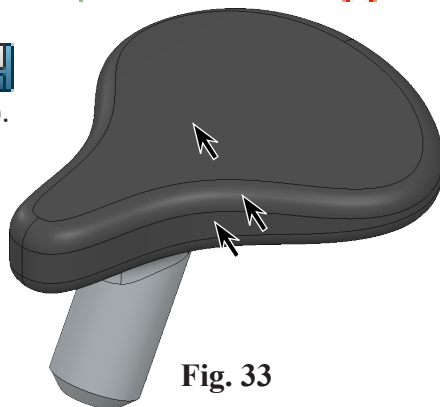

Fig. 33
Step 6. Back in the Appearances Property Manager, under Selected Geometry click **Select Features** , **Fig. 32** click **Cut, Fillet1 and Extrude1**, **Fig. 33** click **OK**  and click **Cancel** .